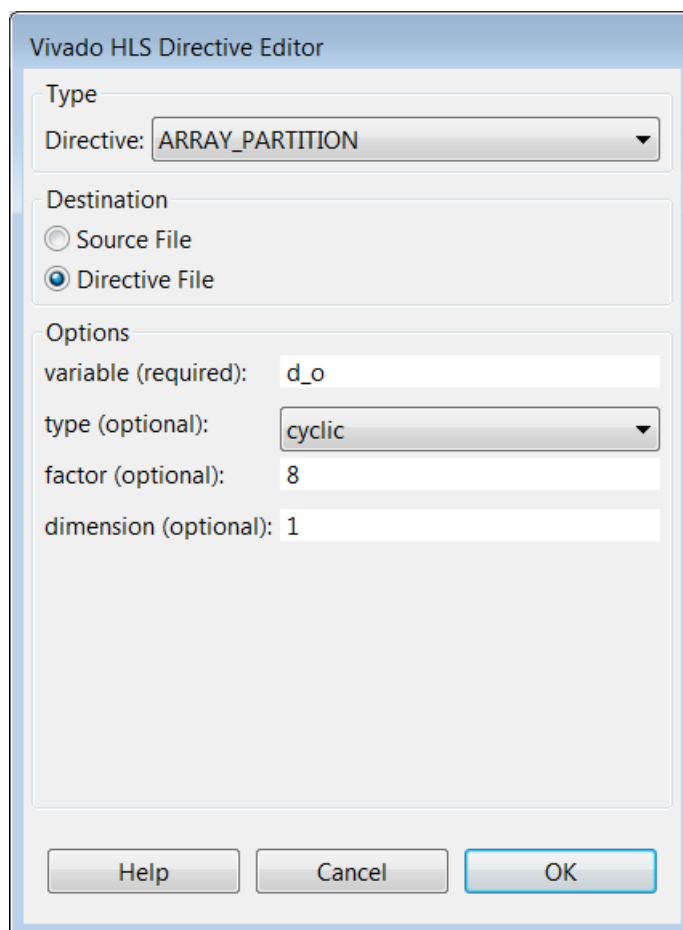

Figure 85: Directives Editor for Cyclic Partitioning
- d. With the Directives Editor dialog box filled in as shown in **Figure 85**, click **OK**.